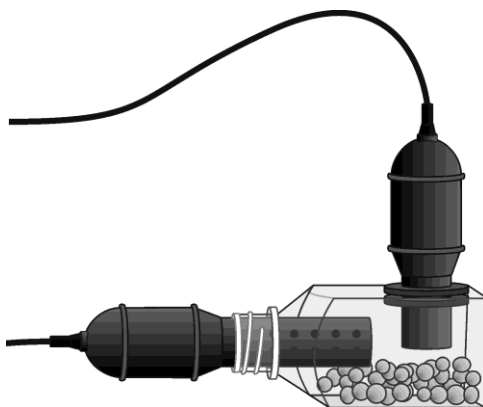

Figure 1
5. Place the O₂ Gas Sensor into the BioChamber 250 as shown in Figure 1. Insert the sensor snugly. The O₂ Gas Sensor should remain vertical throughout the experiment. Place the CO₂ Gas Sensor into the neck of the BioChamber 250.